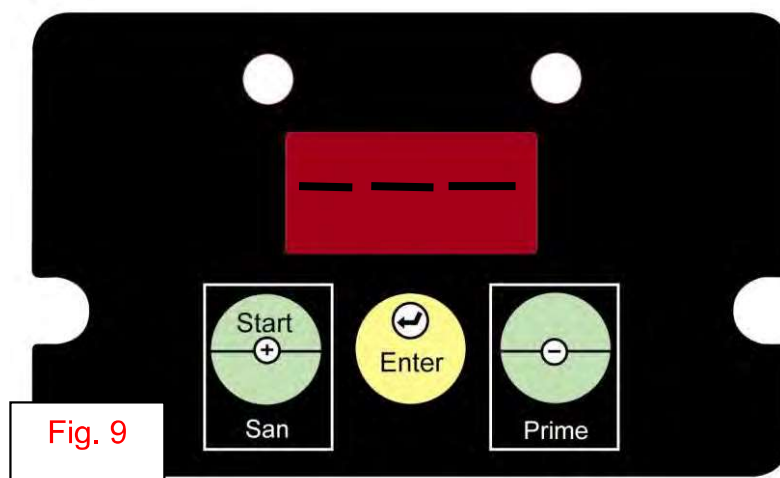

Fig. 9
- Press enter to return to the normal operating mode as shown in **figure 9**.